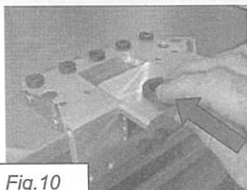

Fig.10
- 4.1. Slide the drill guide into the jig body (fig. 10).